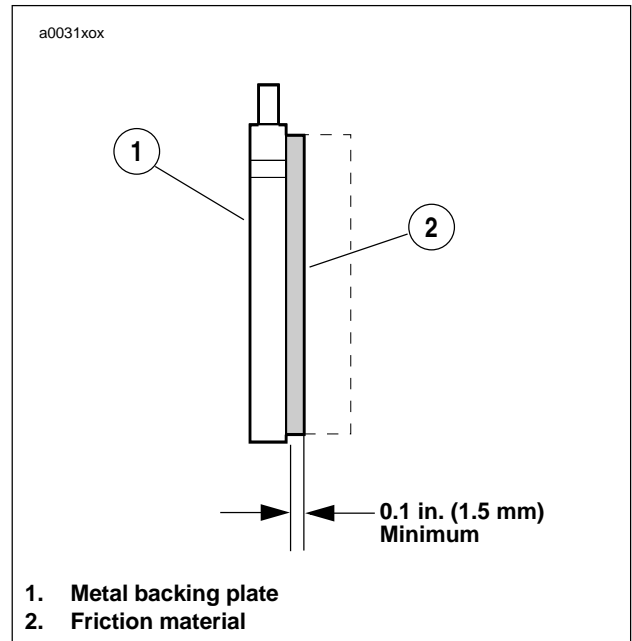
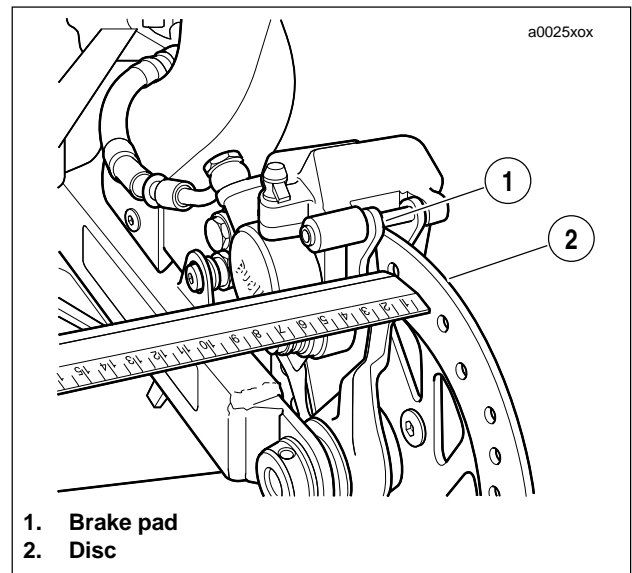

Figure 1-9. Brake Pad - Side View
Figure 1-10. Measuring Rear Brake Outer Pad
See Figure 1-9. Inspect brake pads for damage or excessive wear. Replace both pads as a set if friction material of either pad is worn to 0.1 in. (1.5 mm) or less. If this amount of wear occurs, wear grooves (2) will disappear from friction material surface. See Figure 1-10.